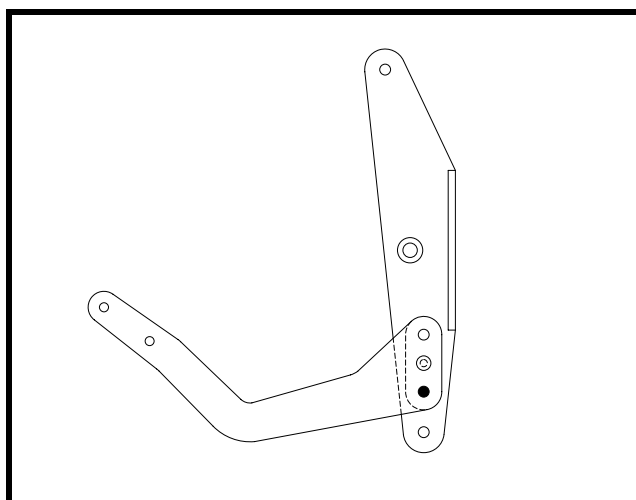

Figure 7
- ❑ Install both balance weight arms (with spacers) on P/N 750. See Figure 7. Use a 5/32"Ø drill bit to align the one hole already drilled. You may also use a No. 8 machine screw or one of the MS20470AD5-16 rivets. If a rivet is used, you will have to ream up the hole with a No. 21 drill (.159"Ø). Use a clamp to hold these control arms in place.